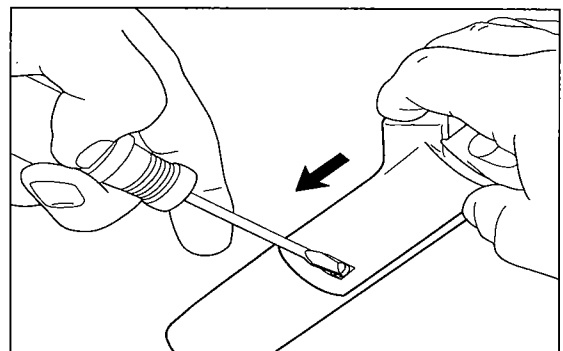
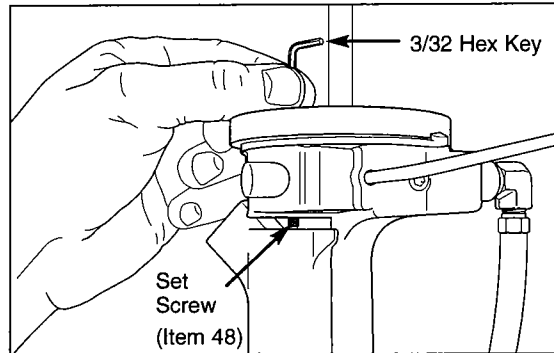

Figure 8
Figure 9
5. With the Passage Body (Item 30) bottom flush with the cut-out in the Handle (Item 36) apply force to the Passage Body in the direction of the tool nose. This will compress the Seal Bushing O-rings (Item 50) forming a face seal for the collection system. Install the Mandrel Passage Screw (Item 51) but do not tighten at this time. (See Figure 8)
6. Screw in the Passage Set Screw (Item 48) using a 3/32 hex key (allen wrench), being sure that it engages the recessed hole in the Passage Body (Item 30). (See Figure 9) Continue rotating the screw until it contacts the bottom of the recessed hole in the Passage Body, the Passage Body will begin to move forward. Continue rotating 1/2 turn and stop. Tighten Mandrel Passage Screw (Item 51). (Referring back to Figure 8 again)